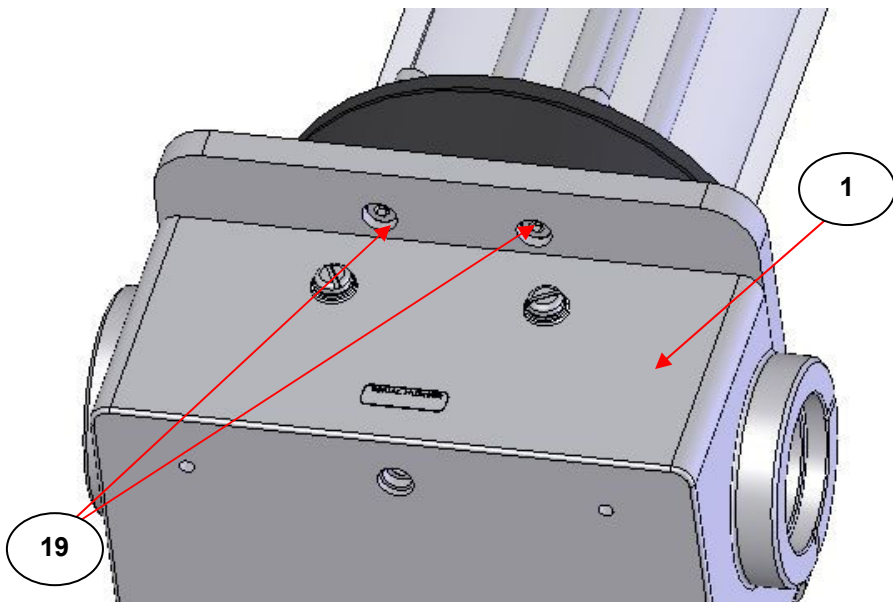

Fig 15. Rear View of Tornado™ T5 Gas Cell Showing Fixing Screws (19) for Gas Cell to the Optical Unit (1)
The T5 gas cell is secured to the transfer optical unit (1) by four M4 x 8mm screws (19) located on the underside of the optical unit top plate. (See Figs 15 and 16.) Two of the four screws (19) at the rear of the optical unit (1) are readily accessible, but the other two screws (19) at the front of the optical unit (1) require removal of the optical units front cover plate (4) to gain access.